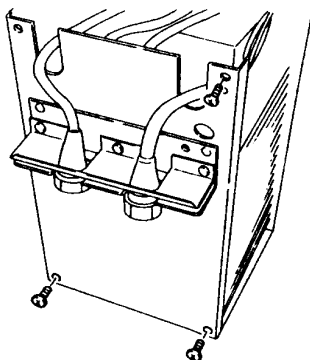

Fig. 7
- ¥ 9) Remove the screws fixing rest of 3 supports, Take off the rest of 3 supports. (See Fig. 7)